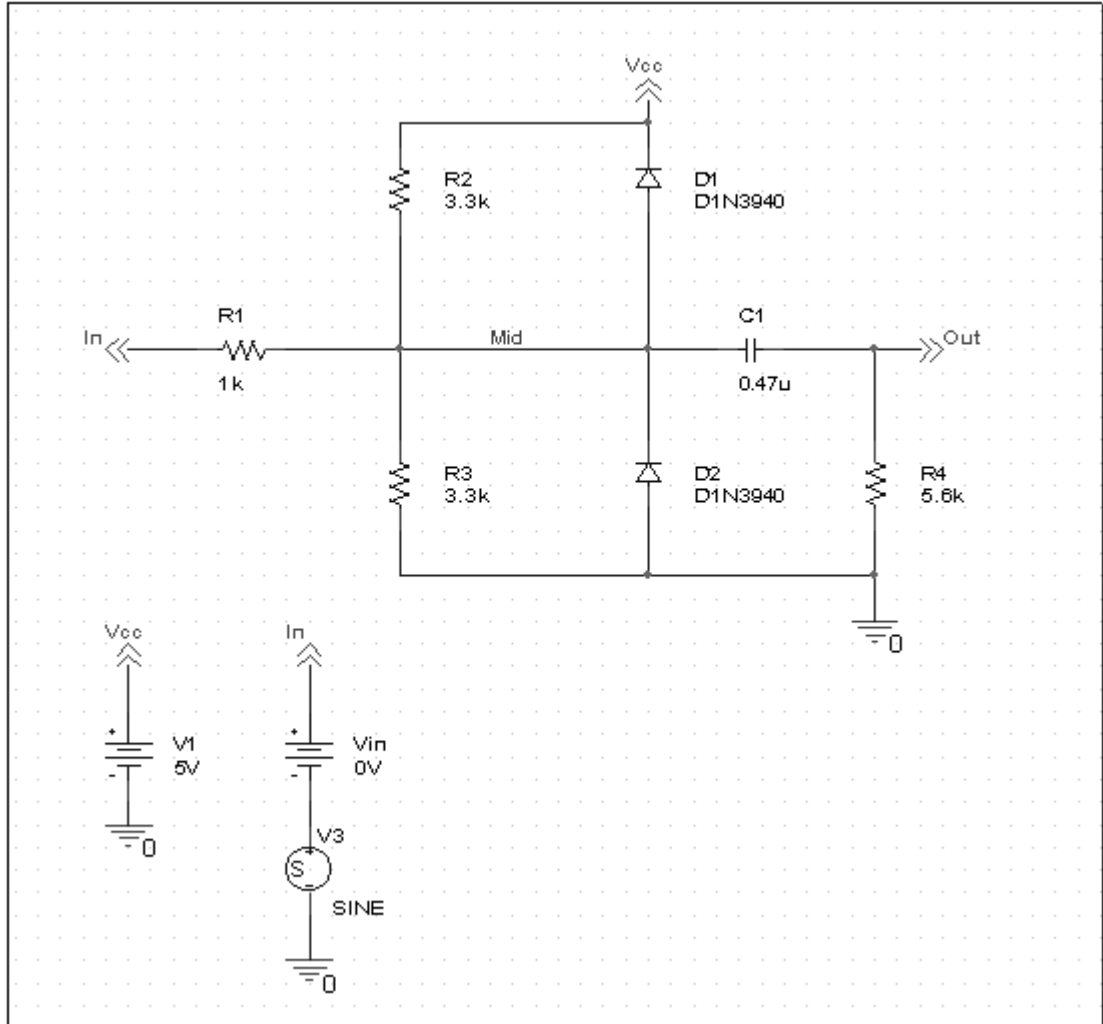

Figure 2-14 Diode clipper circuit with a voltage stimulus in .
The examples in this section show how to run a transient analysis on the clipper circuit. This requires adding a time-domain voltage stimulus as shown in Figure 2-14 and Figure 2-15.
5. Place a VSTIM part (from the PSpice library SOURCSTM) as shown in Figure 2-14.
7. Place the ground part under the VSTIM part as shown in Figure 2-14.